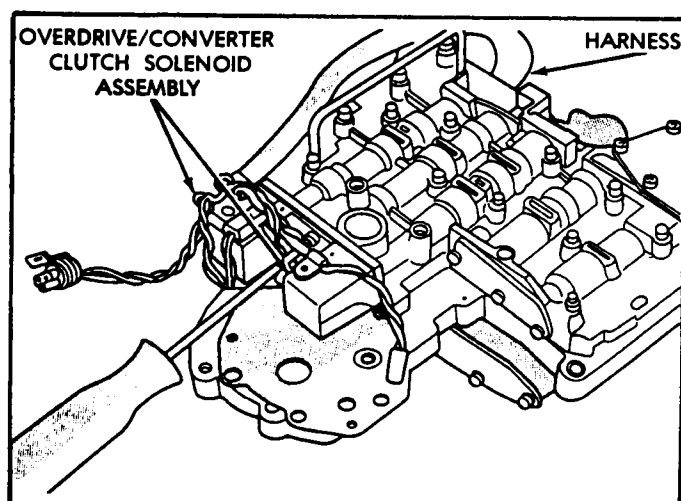

Figure 114
51. Install the solenoid and wiring harness assembly, and torque the 3 retaining screws to 72 in.lbs (See Figure 114).